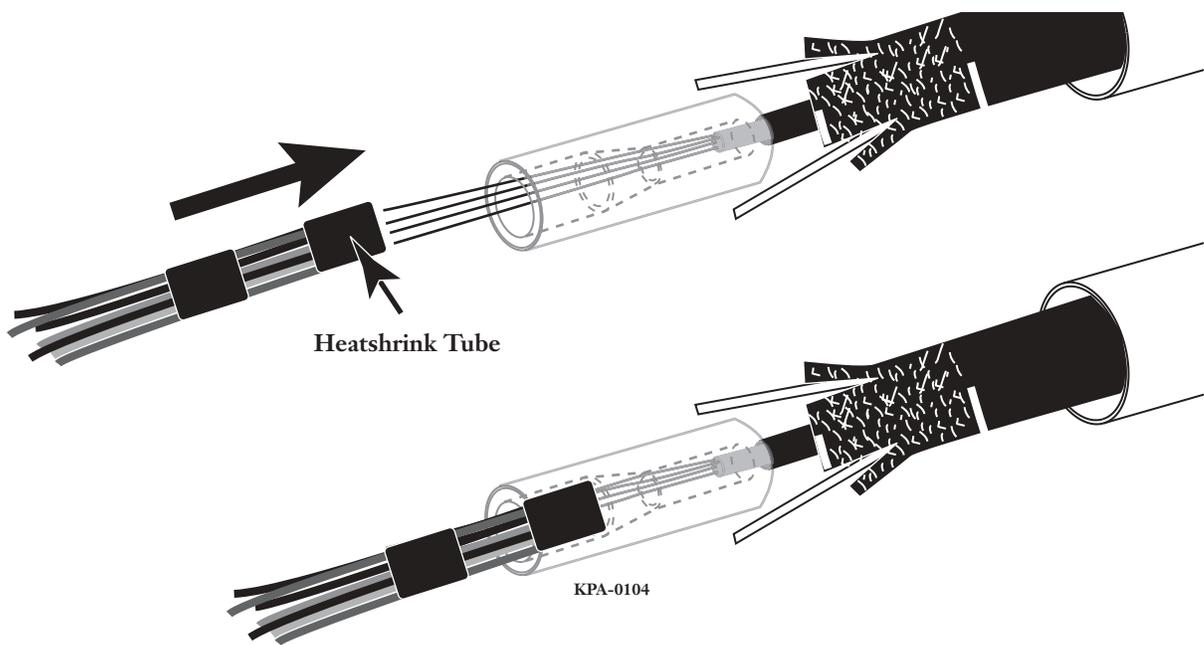

Figure 8
**Step 16** Feed the fibers into the fanout assembly (Figure 8). If the tubing is colored, match the fiber color to the color of the fanout leg. When using PVDF legs, inject RTV 737 silicone into the funnel portion of the transition piece. Slide the fanout assembly over the fibers until the end of the first heatshrink tube is aligned with the rear of the transition piece.